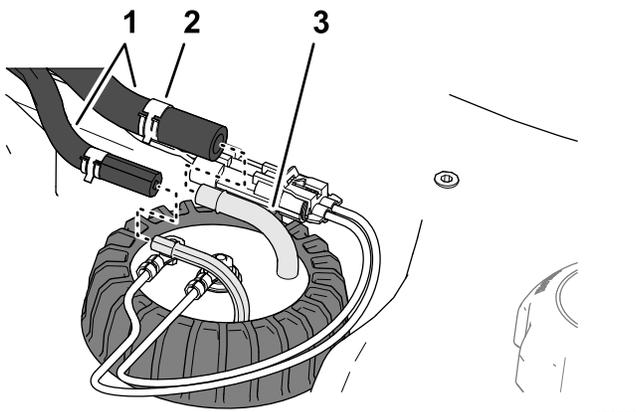

Figure 90
4. Move the clamps that secure the hoses to the fittings of the fuel sender inboard, and remove the hoses from the fittings (Figure 90).